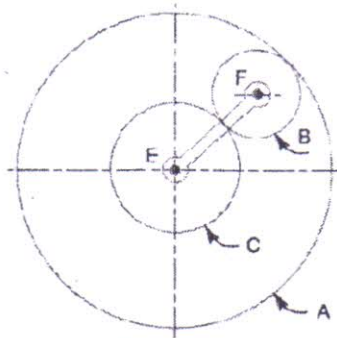

Figure 1
- b)** An epicyclic gear consists of three gears A, B and C as shown in Fig. 1. The gear A has 72 internal teeth and gear C has 32 external teeth. The gear B meshes with both A and C and is carried on an arm EF which rotates about the centre of A at 18 r.p.m.. If the gear A is fixed, determine the speed of gears B and C. [10]